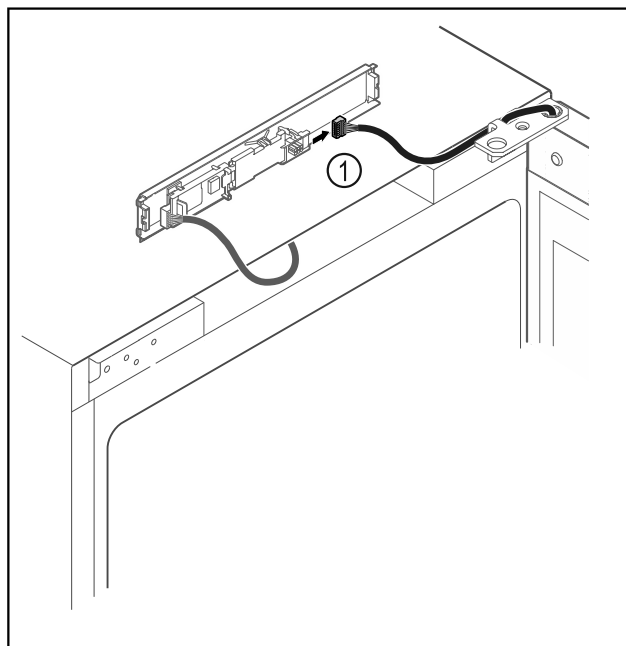

Fig. 18
- ▶ Disconnect the plug Fig. 18 (1) from the circuit board.